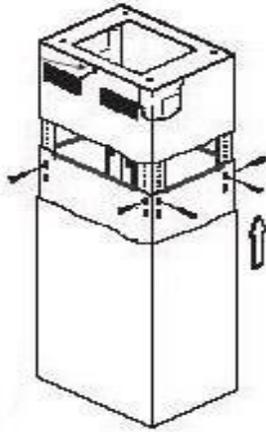

Figure 4
- Slide the lower chimney cover around the lower support frame and around the upper chimney cover. Have second person to hold it in position (see Figure 4).